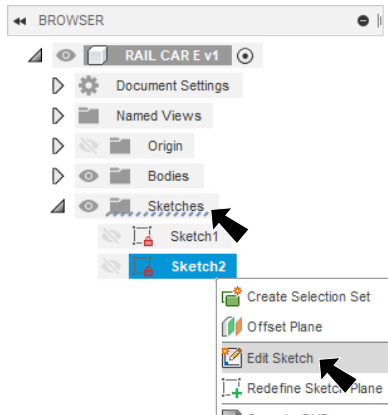

Fig. 2
Step 1. Expand Sketches in the Browser, **right click Sketch4** and click **Edit Sketch** , **Fig. 2**.